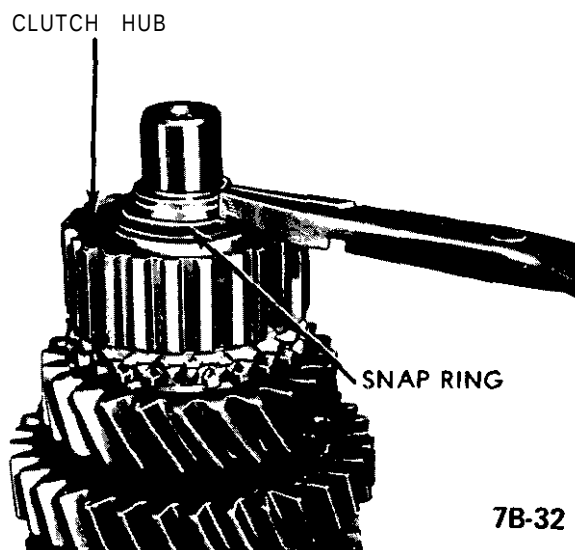

Figure 7B-32 Removing Snap Ring In Front of Clutch Hub
4. Using Tru-arc pliers, remove snap ring behind speedometer drive gear. See Figure 7B-33. Remove speedometer drive gear spring washer and speedometer drive gear.